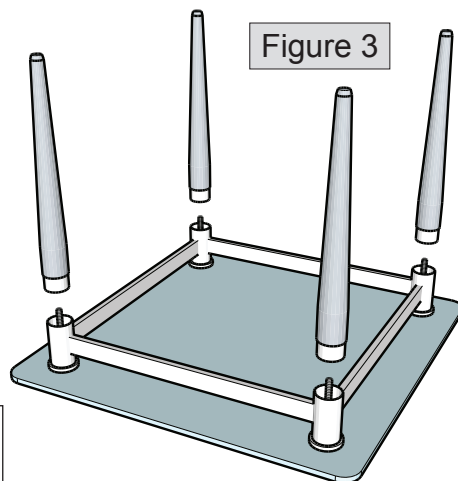
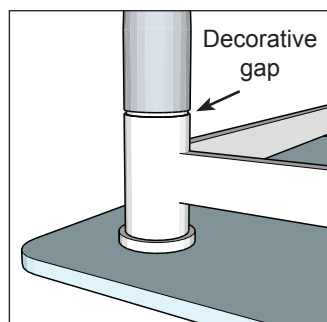

Figure 3
Figure 4
5. Screw legs onto threaded rods, as shown in figure 3. Tighten securely by hand only. Note that after fully tightening there should be a decorative gap between the leg shoulder and the leg post frame, as shown in figure 4. If these parts are flush without a decorative gap, then the leg post frame is upside down and needs to be reversed.